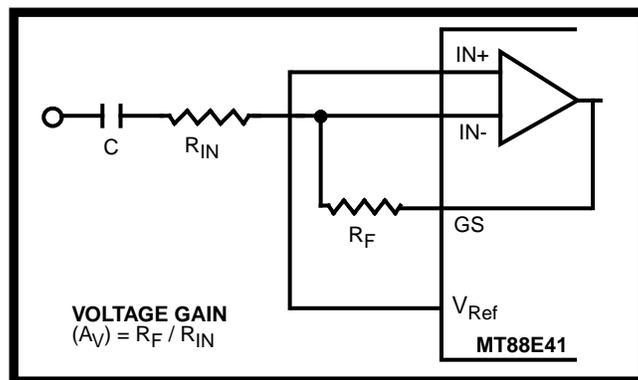

Figure 4 - Single-Ended Input Configuration
The input arrangement of the MT88E41 provides an operational amplifier, as well as a bias source ( $V_{Ref}$ ) which is used to bias the inputs at  $V_{DD}/2$ . Provision is made for connection of a feedback resistor to the op-amp output (GS) for adjustment of gain. In a single-ended configuration, the input pins are connected as shown in Figure 4.